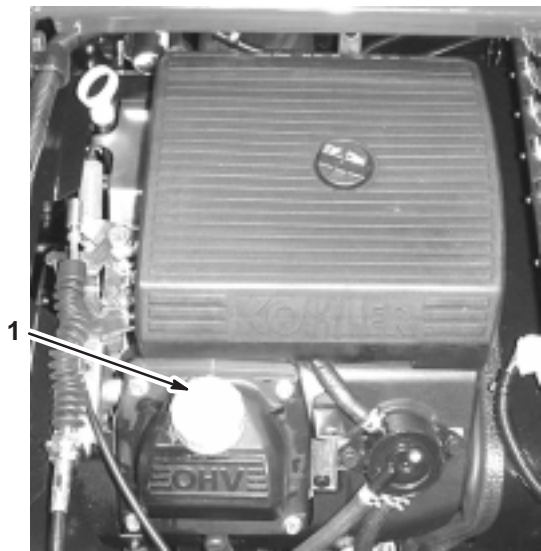

Figure 30
8. Slowly pour approximately 80% of the specified amount of oil into the oil filler tube (Fig. 30).